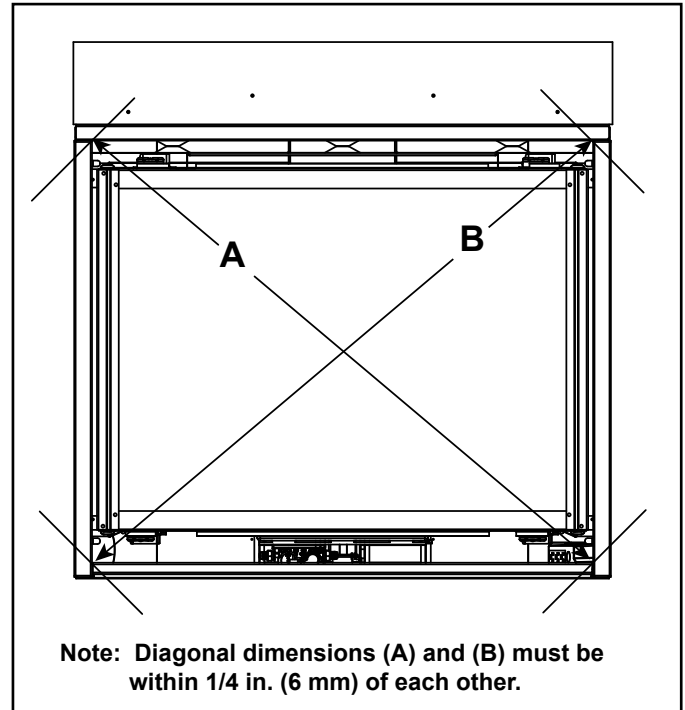

Figure 6.14 Positioning the Appliance Squarely
- “Square” the unit by securing diagonal dimensions to within 1/4 in. (6 mm) of each other. See Figure 6.14.